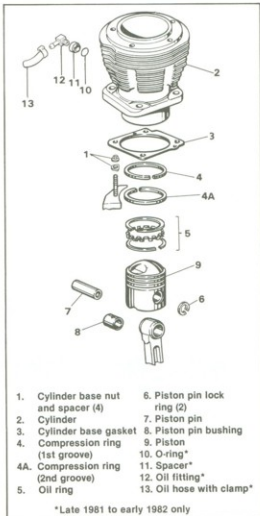

Figure 3-17. Cylinder — Exploded View
(Figure 3-17)
9. See Figure 3-17. On late 1981 and early 1982 models, connect oil hoses (13) to fittings (12) using new clamps. If fitting was removed, a new O-ring must be installed. Tighten fitting to 70-80 in-lbs torque. Then continue to tighten so fitting is facing in proper direction.